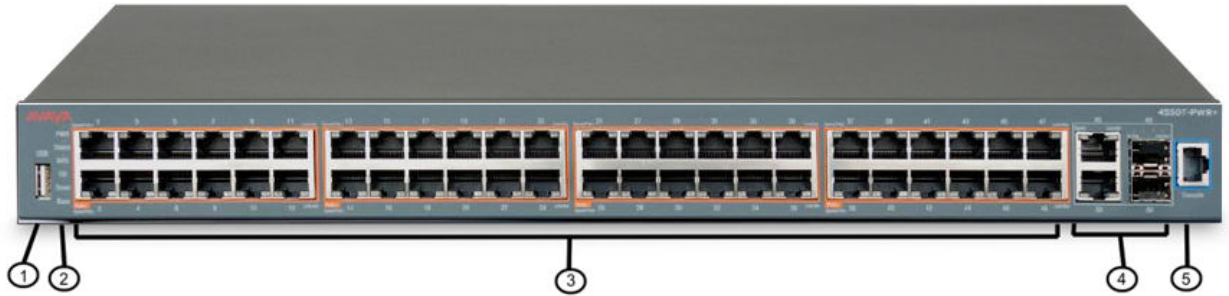

Figure 10: Avaya Ethernet Routing Switch 4550T-PWR and 4550T-PWR+
- Figure 10: Avaya Ethernet Routing Switch 4550T-PWR and 4550T-PWR+ on page 51